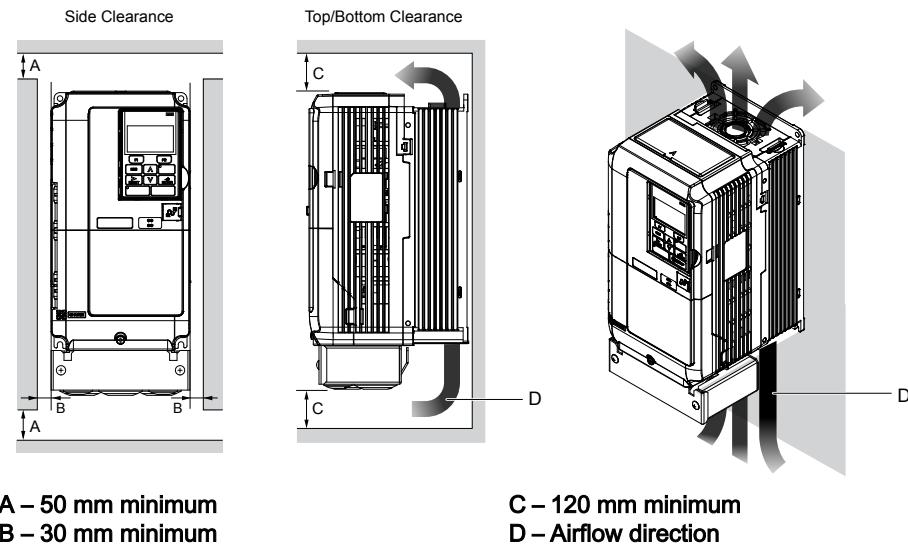

Figure 2.2 Correct Installation Spacing
**Figure 2.2** shows the installation distance required to maintain sufficient space for airflow and wiring. Install the heatsink against a closed surface to avoid diverting cooling air around the heatsink.
When installing multiple drives into the same enclosure panel, mount the drives according to **Figure 2.2** and set L8-35, Installation Method Selection, to 1 (Side-by-Side Mounting).